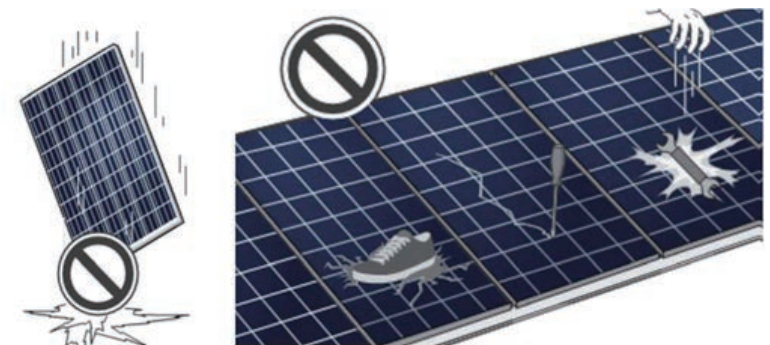

Figure 4. Handling Precautions
15. Do not step or walk on the Modules. Doing so may damage modules (please see Figure 4).
16. Do not carry wet or hot Modules dropping a module from an height and the impact of falling tools may affect the electrical performance or break the module (please see Figure 4).